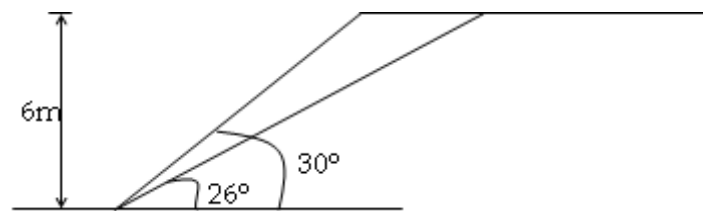

Fig. 5
30. Determine the factor of safety of the following slope under seismic condition (as shown in Fig.5). The cohesion of the soil is 10 kN/m^2 and $\phi = 25^\circ$. Take, $k_h = 0.2$ and $k_v = 0.0$. Unit weight of the soil is 20 kN/m^3 . In the figure, slope angle is 30° and the failure surface is making an angle 26° with horizontal [Answer: 2.55]